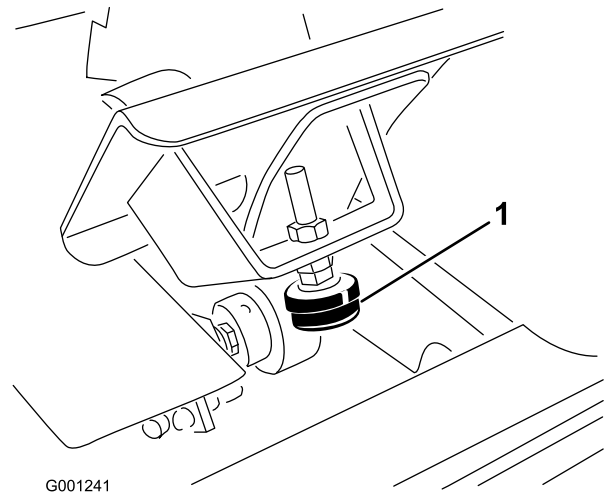

Figure 46
1. Check the traction pedal stop adjustment. The pedal stop (Figure 46) should contact the frame slightly before the pump reaches full stroke.